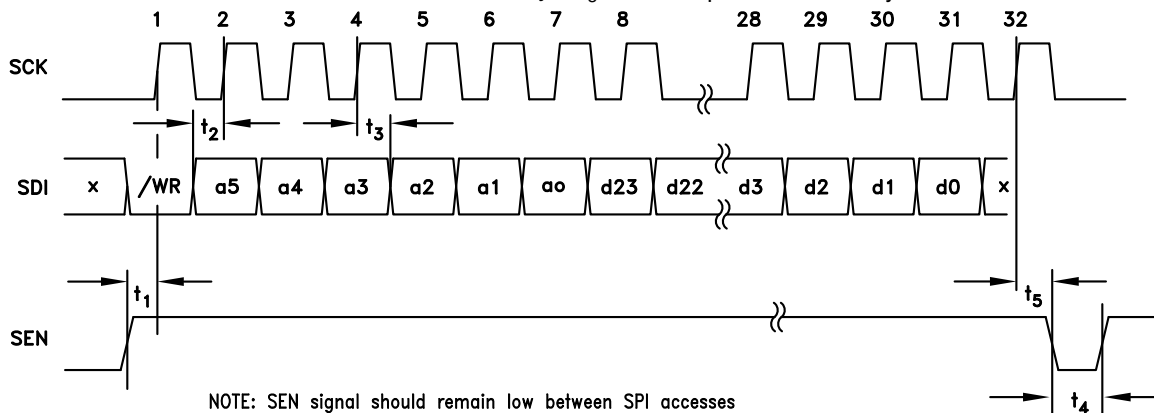
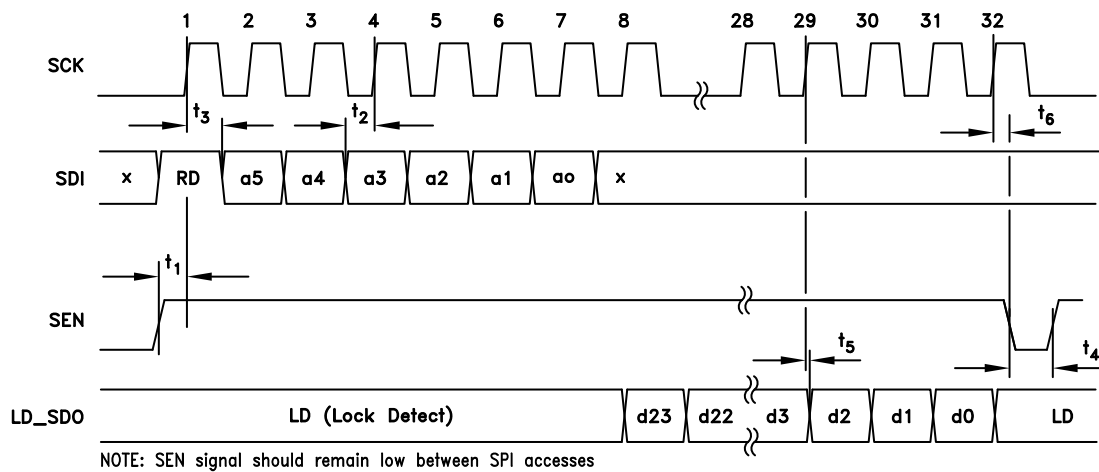

Figure 45. HMC Mode - Serial Port Timing Diagram - WRITE
Figure 46. HMC Mode - Serial Port Timing Diagram - READ
The HMC Mode protocol, shown in figures Figure 45 and Figure 46, is designed for a 4 wire interface with a fixed protocol featuring
A typical HMC Mode WRITE cycle is shown in Figure 45.
A typical HMC Mode READ cycle is shown in Figure 46.
- a. The Master (host) asserts both SEN (Serial Port Enable) and SDI to indicate a READ cycle, followed by a rising edge SCLK. Note: The Lock Detect (LD) function is usually multiplexed onto the LD_SDO pin. It is suggested that LD only be considered valid when SEN is low. In fact LD will not toggle until the first active data bit toggles on LD_SDO, and will be restored immediately after the trailing edge of the LSB of serial data out as shown in Figure 46.
- b. The slave (HMC834LP6GE) reads SDI on the 1st rising edge of SCLK after SEN. SDI high initiates the READ cycle (RD)